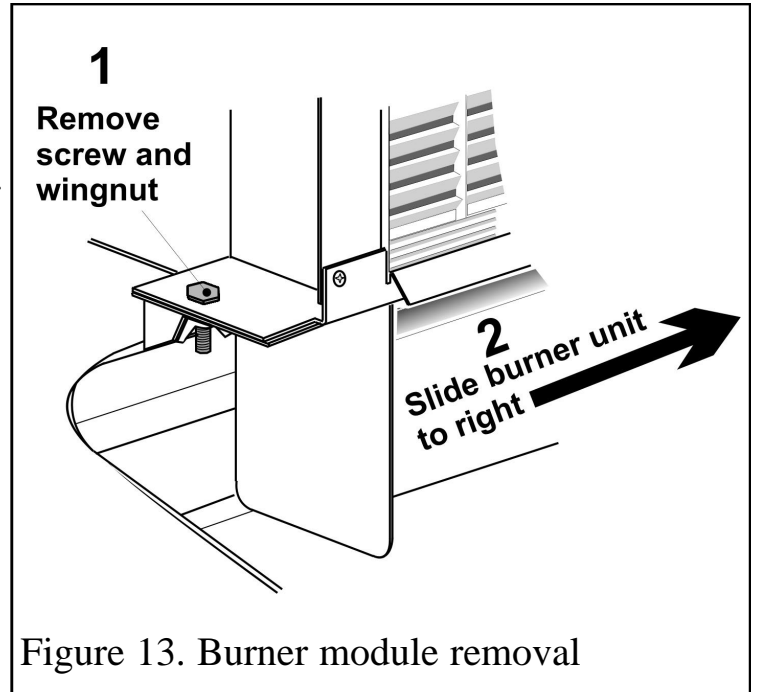

Figure 13. Burner module removal
11.6.4. Detach the left end of the burner module from the radiant box by removing one screw and a wingnut (See figure 13).
11.6.5. Carefully slide the burner module to the right to free it from the right side of the radiant box (See figure 13).